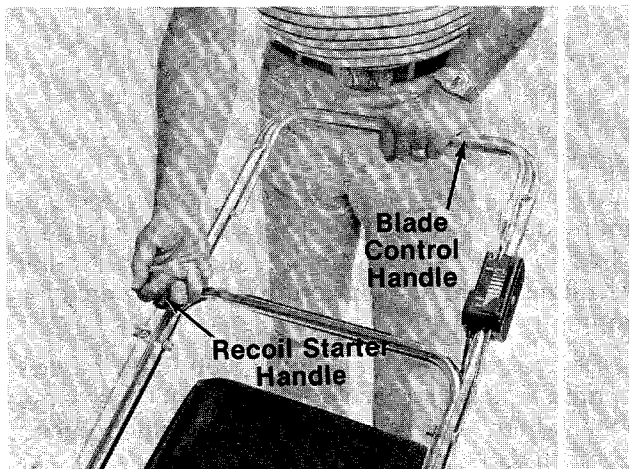

FIGURE 18.
20. **Check the engagement rod adjustment.** Disconnect the spark plug wire from the spark plug and ground it against the engine. Standing behind the unit, depress the blade control handle and hold it against the upper handle as shown in figure 18. Pull the recoil starter handle without raising the mower handle. If the mower does not move forward, adjustment is correct. If the mower moves forward, remove the ferrule locking ring from the ferrule and thread in or out one turn. Repeat the above check as necessary.
3. Standing behind the unit, depress the blade control handle and hold it against the upper handle as shown in figure 18.